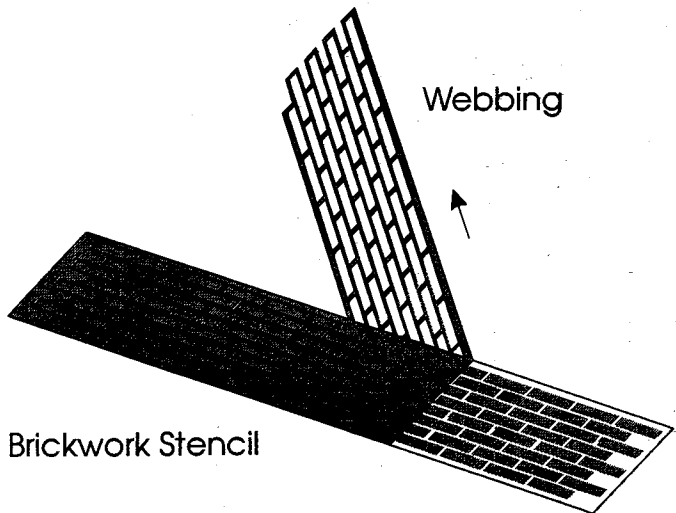

Figure 4
5. Peel the webbing from the Brickwork Pattern as in Fig.4.